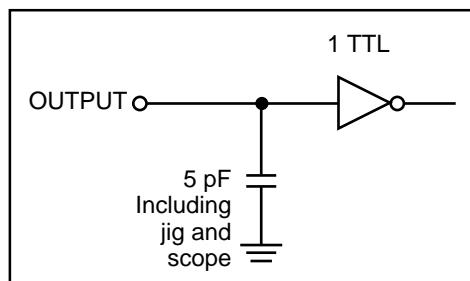

Figure 2
2. Tested with the load in Figure 2. Transition is measured ±500 mV from steady-state voltage. Not 100% tested.
3. Tested with the load in Figure 2. Transition is measured ± 500 mV from steady-state voltage. Not 100% tested.